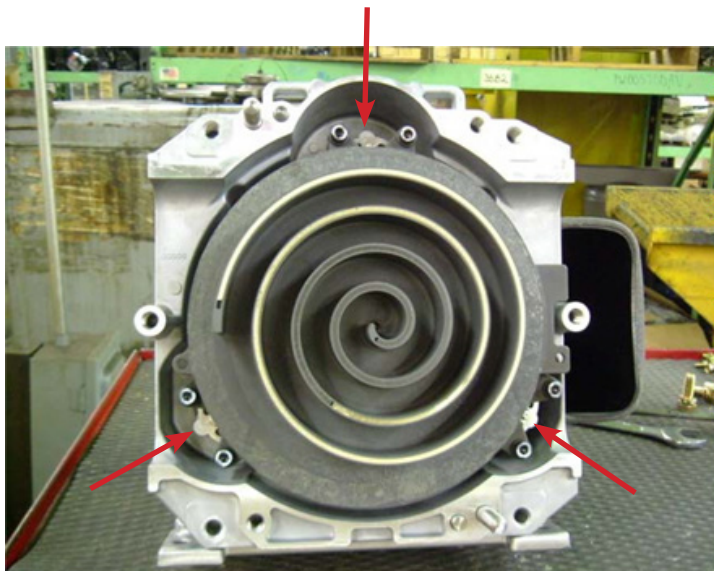

Figure 30: Pin Crank Bearing Grease Fittings
3. Now that the Orbital Scroll (OS) is exposed, the 3 pin crank grease fittings may be accessed as shown in Figure 30.